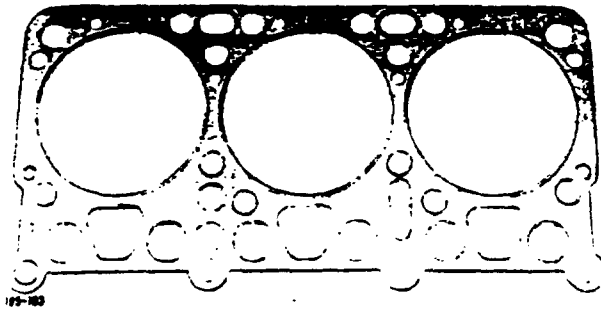
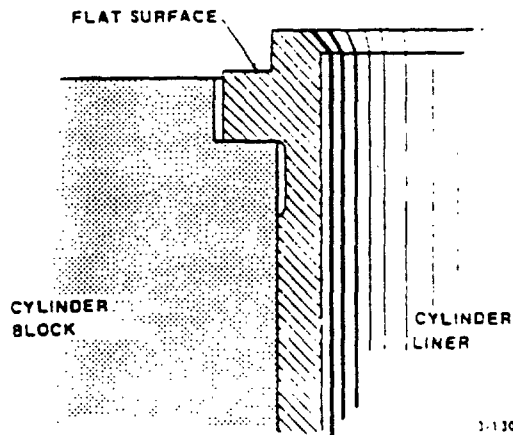

Figure 11. Folded-Steel Type Gasket
Figure 12. Flat-Flange Type Cylinder Liner
Two (2) types of cylinder head gaskets are currently being used during engine rebuild. The "folded-steel" type gasket (see Figure 11) is used with the "flat-flange" type cylinder liner (see Figure 12).